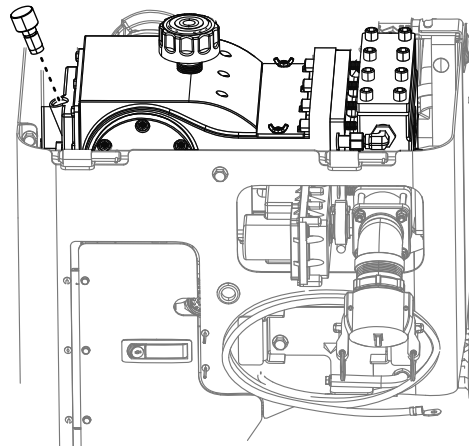
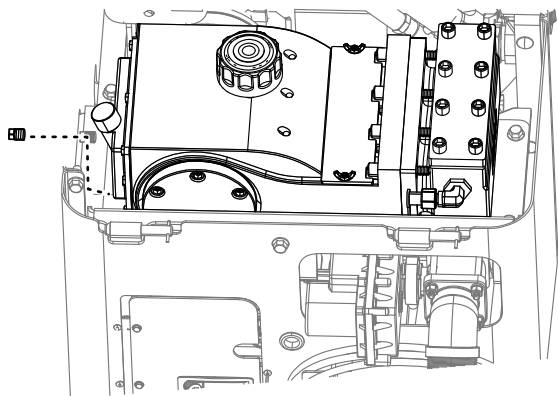

Figure 116
Figure 117
3. Remove the oil dipstick (Figure 116).
4. Ensure that the oil is at the oil-fill line as shown in Figure 116.
4. Remove the drain plug and place a drain pan under the drain-plug hole (Figure 117).
6. Allow all of the oil to drain into the oil pan (Figure 117).
8. Remove the oil-filler cap (Figure 117) and add approximately 1.9 L (2 US qt) of oil, or until the oil reaches the oil-fill line on the dipstick as shown in Figure 116.